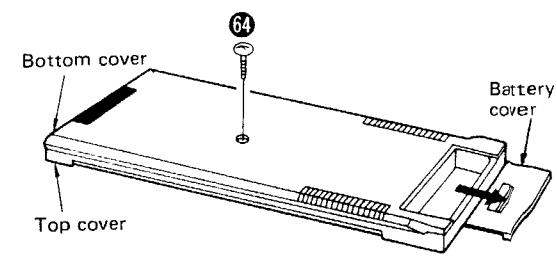

Fig. 19
1. Remove the battery cover in the direction of the arrow [Fig. 19].
2. Remove the battery and battery cover setscrew [Fig. 19: 64].